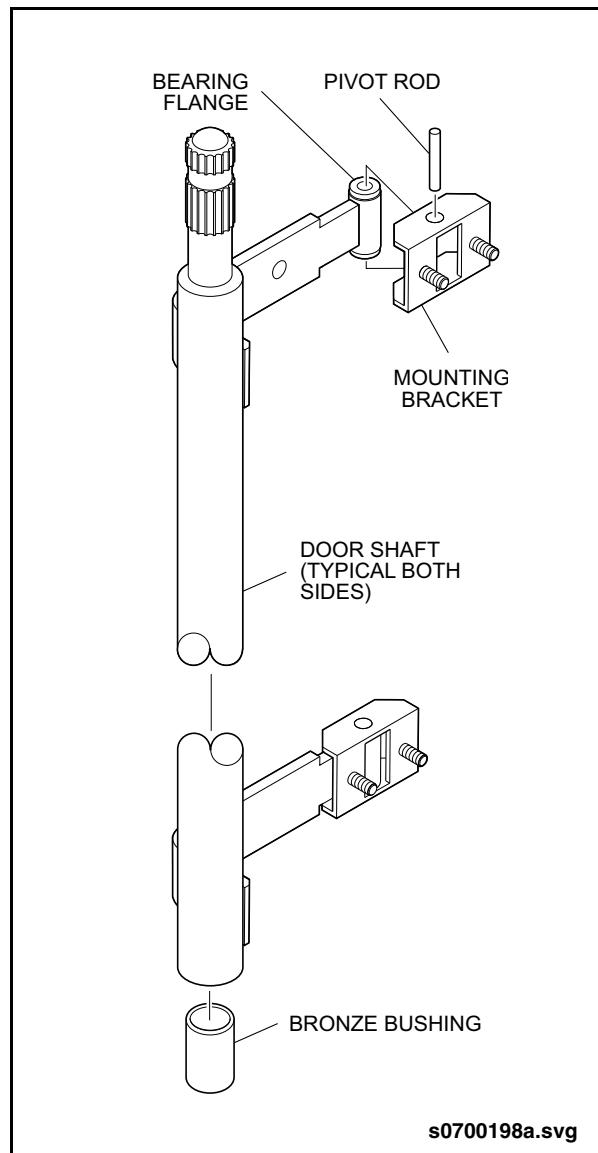

Fig. PM-53: Exit Door Shaft
- The upper and lower hinged mounting brackets attach the door shaft and arm assembly to the exterior side of the door panel. A lubrication fitting is provided on the hinged mounting bracket to allow lubrication of the flanged bronze bushing from the exterior of the vehicle. See “Fig. PM-53: Exit Door Shaft” on page 108. Check door shaft and arm assemblies for any evidence of bending, twisting, or other physical damage. Repair or replace damaged door shaft and arm assemblies as required.